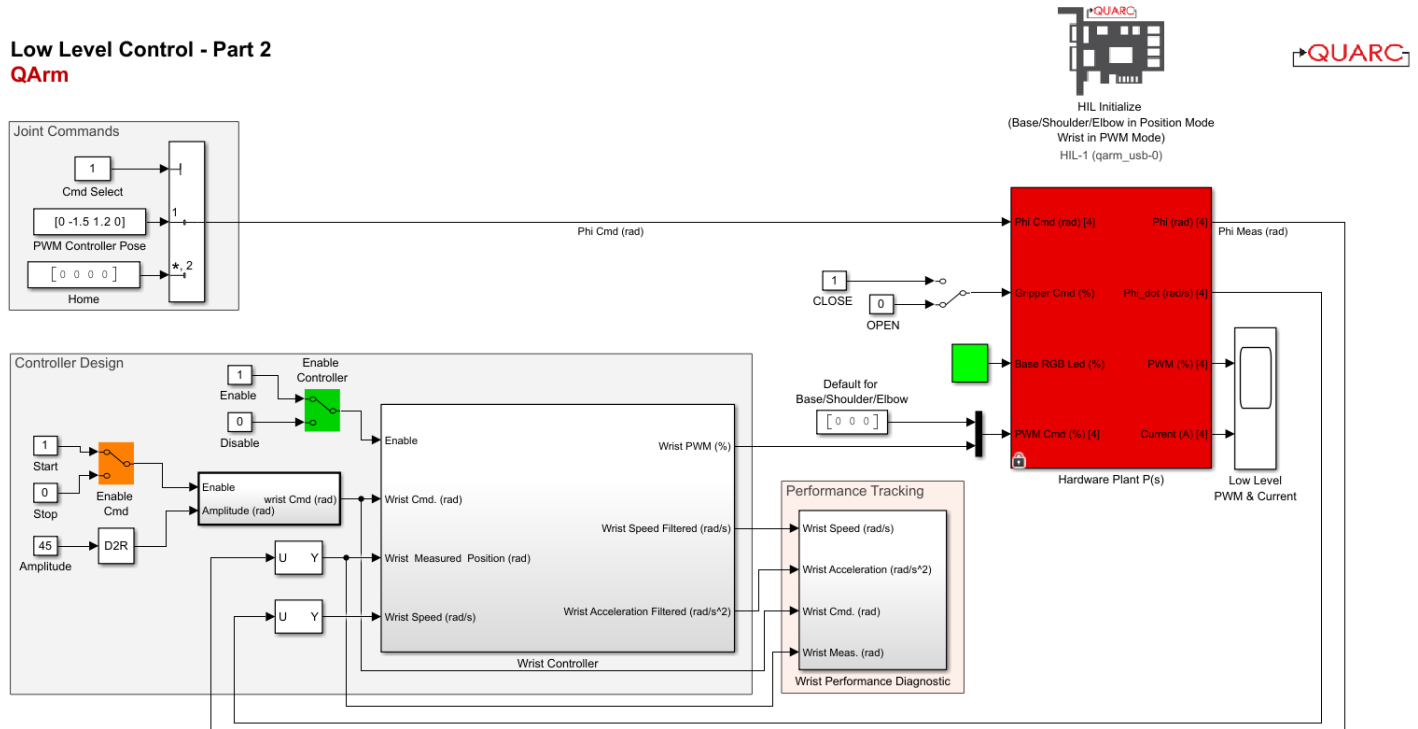

Figure 4: Simulink model that controls the QArm in hybrid Position/PWM Mode.
1. Open the Simulink model LowLevelControlWristPWM.slx (Figure 4). In this part of the lab you will tune the proportional and derivative (PD) terms of the Wrist controller to examine their effect on performance characteristics mentioned in the Application Guide.